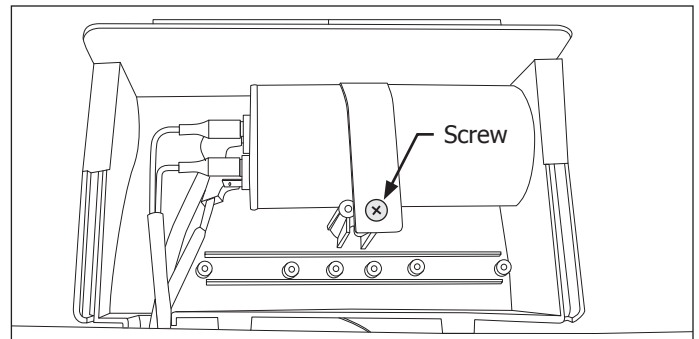

Figure 4-18.
6. Extract the screw securing the capacitor mounting strap to the cover. Remove capacitor from unit. (See Figure 4-18)